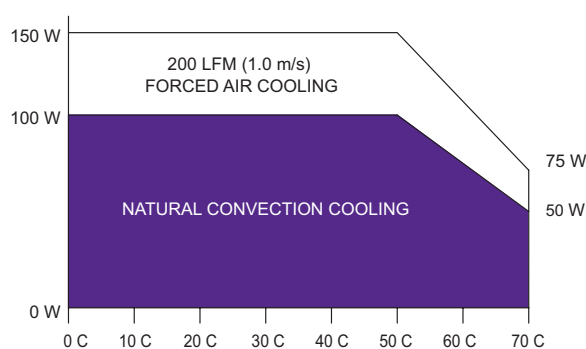

Figure 1: Derating Curve
- Free air convection. Maximum continuous output power not to exceed 100 W. Refer to Figure 1 for the derating curve.